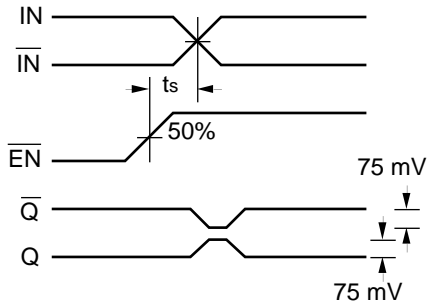

Figure 1. Set-up Time
- The set-up time is the minimum time that  $\overline{EN}$  must be asserted prior to the next transition of IN/ $\overline{IN}$  to prevent an output response greater than  $\pm 75$ mV to that IN/ $\overline{IN}$  transition (see Figure 1).